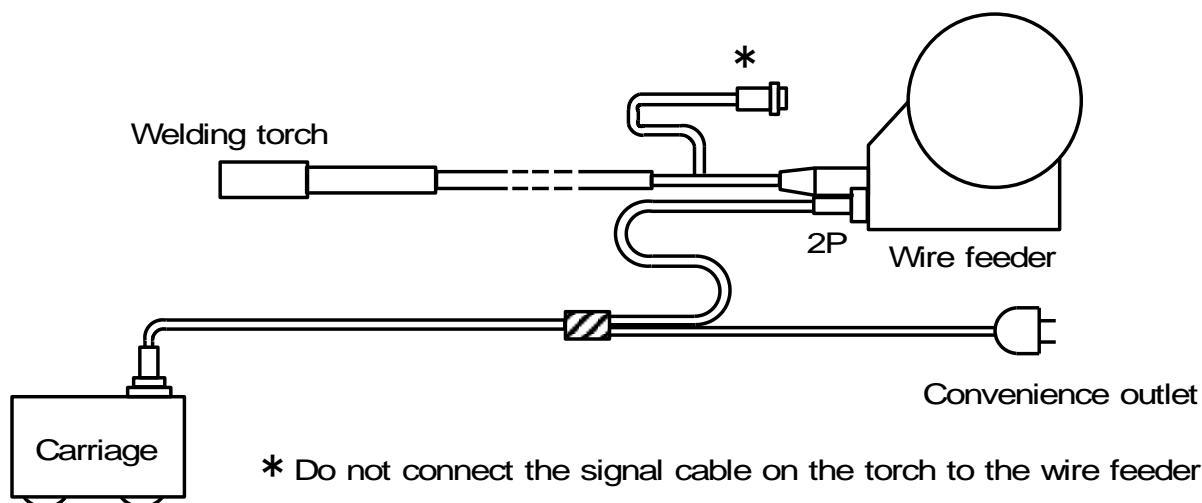

Fig.6 System connection diagram
Conduct welding in the following manner, while referring to the Fig. 6 “System connection diagram” and the operation procedure in item 5.